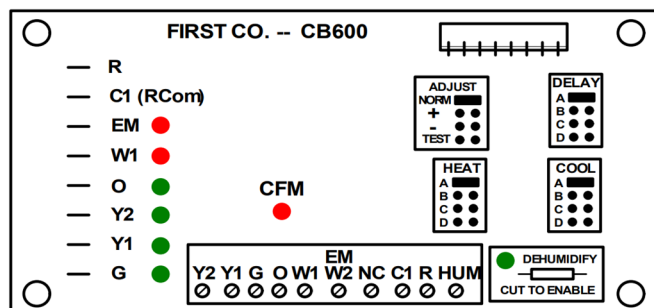

Figure 8 Select Control Board
Select system airflow for size of outdoor unit installed. See figure 8 for jumper location. Refer to Table 1 to select the proper airflow and Select Tap for the system installed. Proper selection should be derived from the outdoor unit capacity (tons) multiplied by nominal CFM per ton. (ex. 3 tons x 400 = 1200 CFM)
Select system airflow for heat output. See figure 8. Refer to Table 1 to select the proper airflow and Select Tap for the hot water coil installed. Proper selection should be derived from BTUH output of the coil from the unit specification sheet. The typical selection would be 350 to 400 CFM per ton.
Select system CFM airflow requirement. See figure 8. Adjust select options are provided to adjust airflow supplied to meet individual installation conditions such as noise, comfort and humidity removal. To provide airflow at rates described in Table 1, the Adjust Tap is factory set at nominal (NORM). The adjust selections will regulate airflow supplied for all operational modes. The (+) tap provides 10 percent airflow over nominal airflow selected and the (-) tap provides 10 percent airflow below nominal airflow selected.
Select desired delay profiles. See figure 8. Four operation delay profiles are provided to customize and enhance system operation.
- Cut the DEHUMIDIFY jumper on the control board (see figure 8)
Latent capacities for systems using the HCXQ\*V, HCXR\*V and HCXW\*V Fan Coil are better than average systems. If increased latent capacity is an application requirement, the field wiring terminal block provides connection terminals for use with a standard dehumidistat. The fan coil will detect the dehumidistat contacts opening on increased humidity and reduce its airflow to approximately 80 percent of nominal cooling airflow. This reduction will increase the system latent capacity until the humidity falls to a level, which causes the humidistat to close its contacts. When the contacts close, the airflow will return to 100 percent of the selected cooling airflow. To activate this mode, cut the resistor located on the lower right-hand corner of the selection control board and wire in a standard dehumidistat. (Refer to figure 8.)